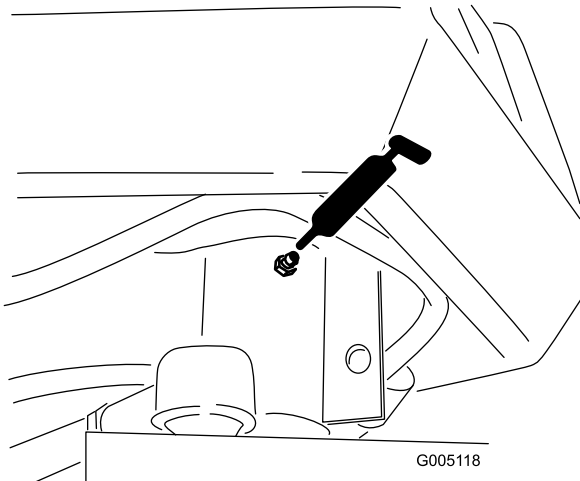

Figure 39
- Steering fork shaft (1) (Figure 39)
- Rod end (Figure 39)